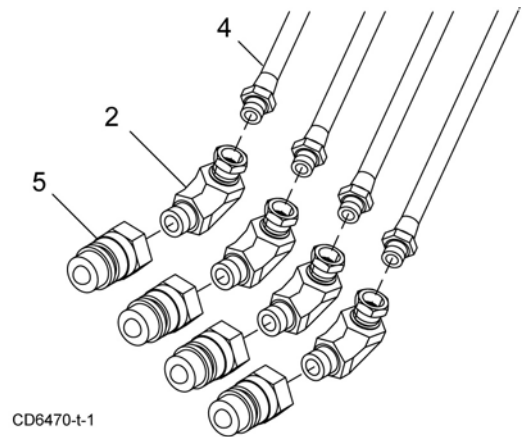

Figure 27. Loader Hose Connection
1. Attach male half of quick coupler set (5) and elbow (2) to each of the loader feedline hoses (4). See Figure 27.